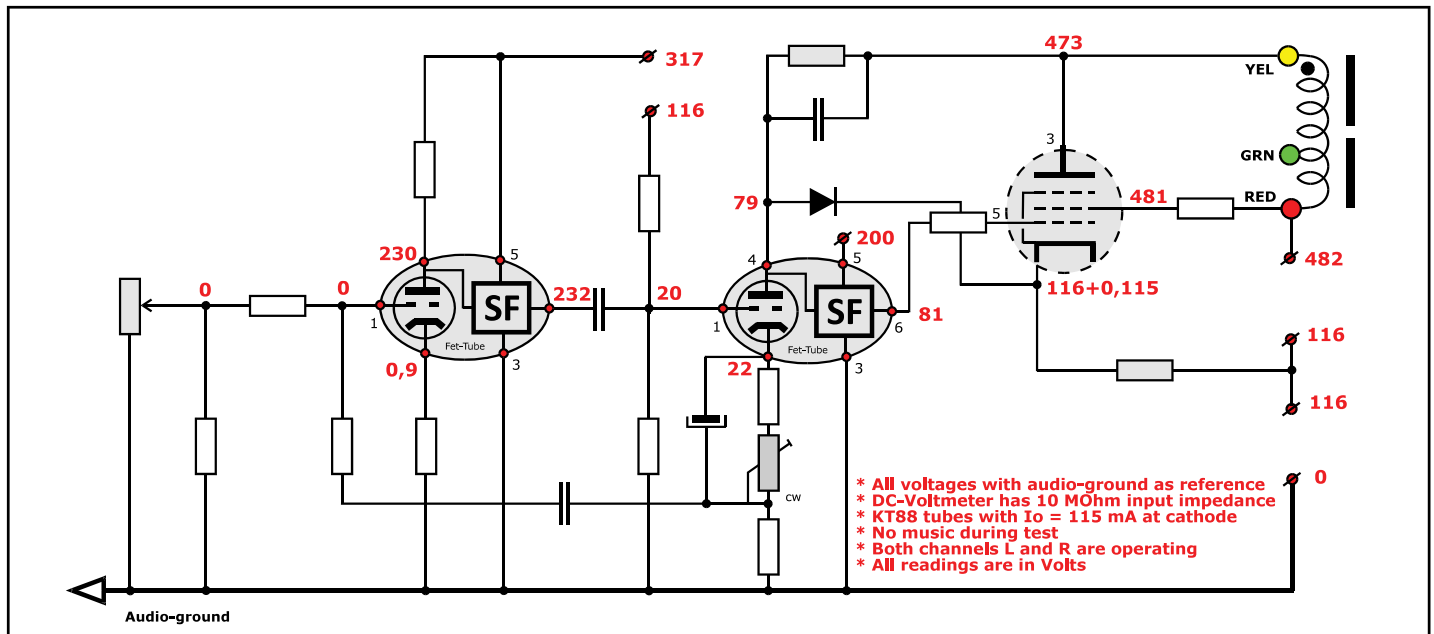

Figure 5: Your voltages should correspond to all the voltages shown here inside the amplifier.
- Measure the power supply voltages V_n and B without the power tube; see **Figure 5**.
- Measure the voltage at the tube socket point 5. It should be less than 70 VDC, see Figure 5.
- If all functions, check the voltages indicated in Figure 5. Your readings should be close to the given data. The correct reading of 115 mV over R11 is essential.
I measured important DC voltages inside the amplifier, enabling you to check correct operation. See Figure 5. All measurements are with a digital voltmeter with audio-ground as reference.